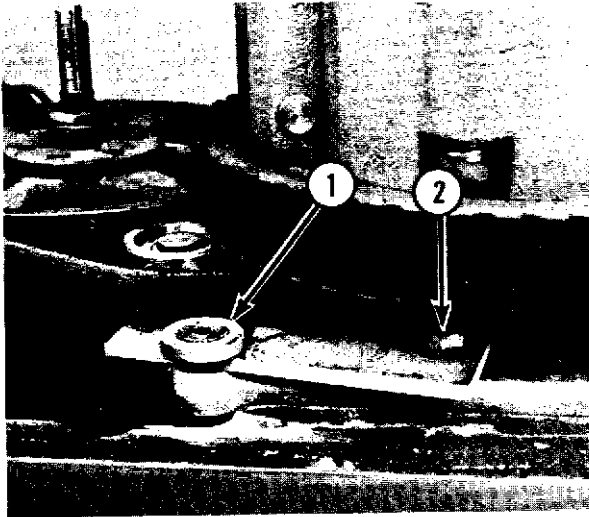
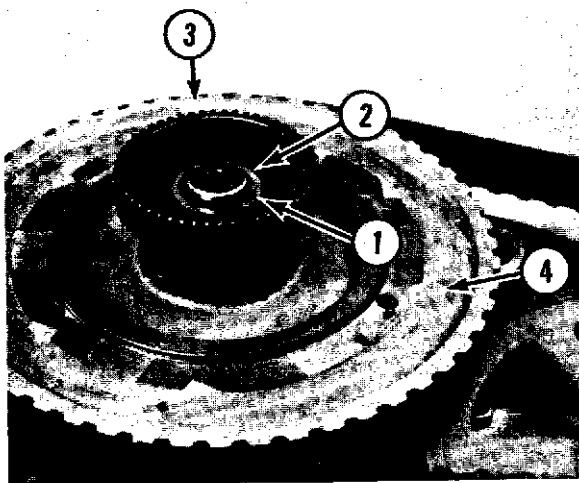

Fig. 9-5A
Fig. 9-6
- (6) Remove the retaining ring (1, Fig. 9-6) and shims (2, Fig. 9-6).
- (7) Remove the splined hub (3, Fig. 9-6) and key.
- (8) Remove the Flexa-Gear.
- (9) Loosen the holding screw (1, Fig. 9-5A) and pivot screw (2, Fig. 9-5A) and move the belt tightener mounting plate and remove the bowl lift "V" belt.
- (10) Remove the driven gear (4, Fig. 9-6).